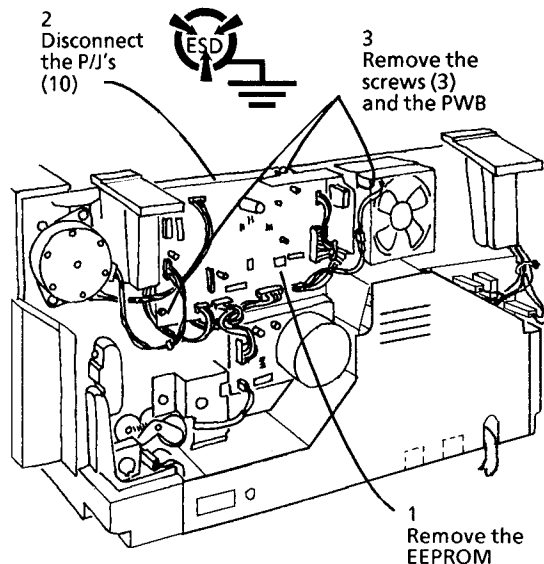

Figure 1. Removing the Main PWB
5. Remove the Main PWB (Figure 1).